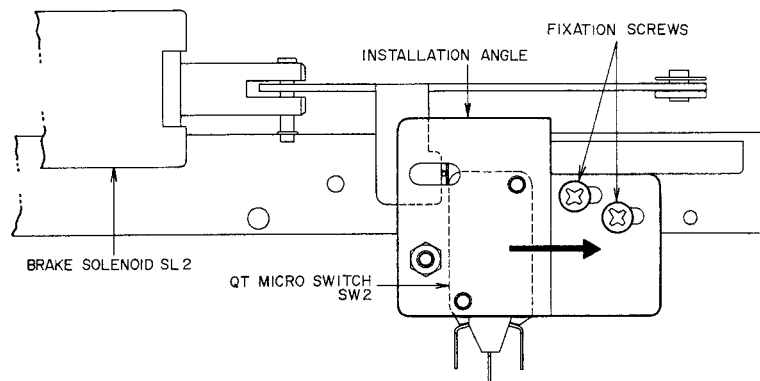

Fig. 2
3. QT MICRO SWITCH (SW2) INSTALLATION ANGLE ADJUSTMENT (Refer to Fig. 2)